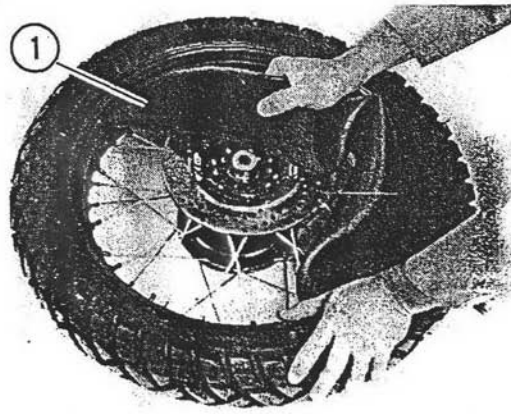

Figure 5-53. Removing Inner Tube
11. See Figure 5-53. Remove inner tube (1) from tire.